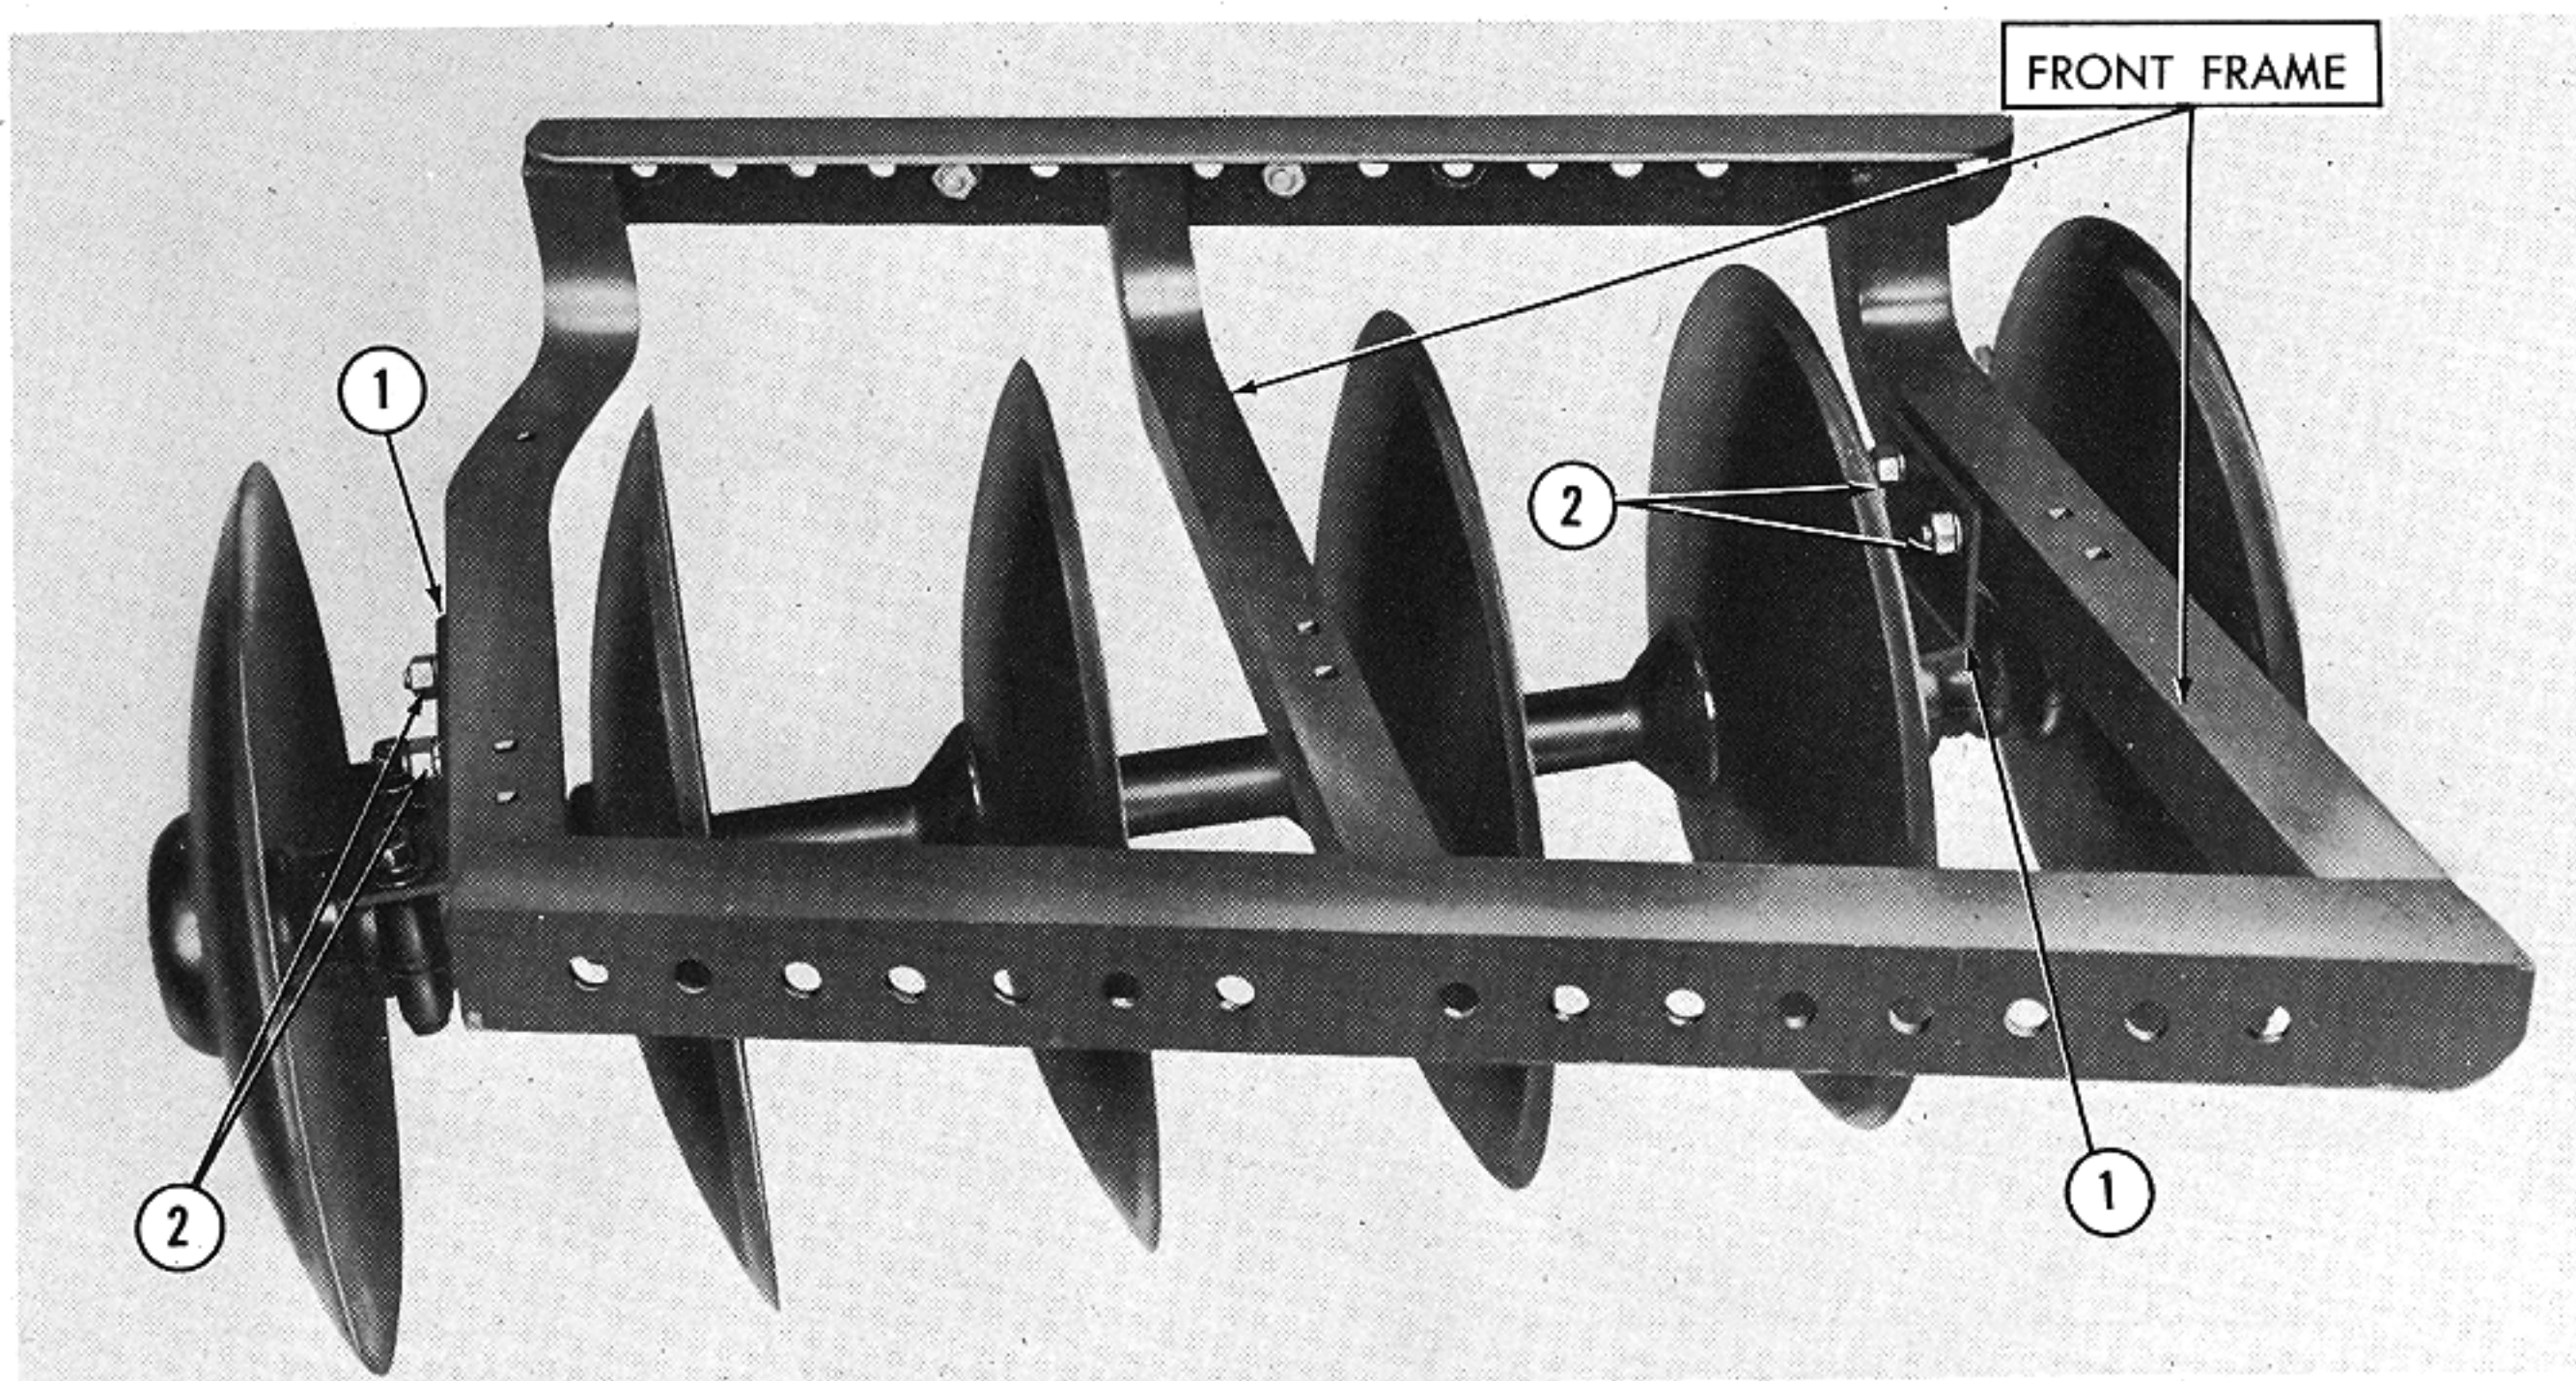

Figure 3
1. Attach the front frame to the disc gang. See Figure 3.
- a. Position the front frame to fit on the disc gang risers (1) as shown in Figure 3. Be sure that the discs are dished to the right (when viewed from the rear), and that the raised part of the frame is to the front. The disc gangs are interchangeable.
- b. Bolt the risers to the frame with the four bolts (2) provided in the frame.